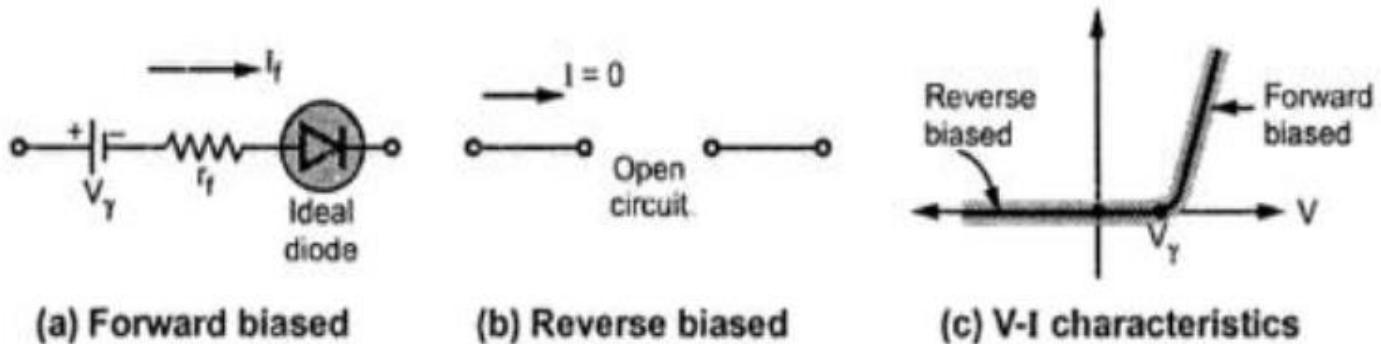

Fig. 1.11 Practical diode model
- In forward bias, the practical diode model consists of a battery equal to cut-in voltage and the forward resistance in series with an ideal diode which is shown in fig.1.11 (a).
- In reverse bias, it is open circuited and is shown in fig. 1.11 (b).
- While the Fig. 1.11 (c) shows the corresponding V-I characteristics.